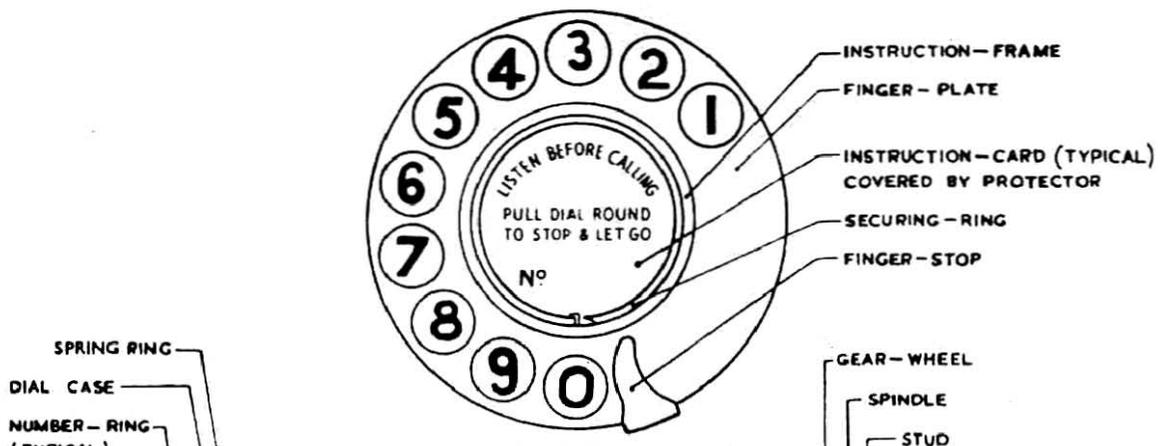

FIG. 1
1. This instruction details the dismantling, assembly, adjustment and lubrication of Dial Switch type 20. Views showing the names of the parts are given in Figs 1, 2, 3 and 4. The necessary adjustments are described in the following paragraphs.